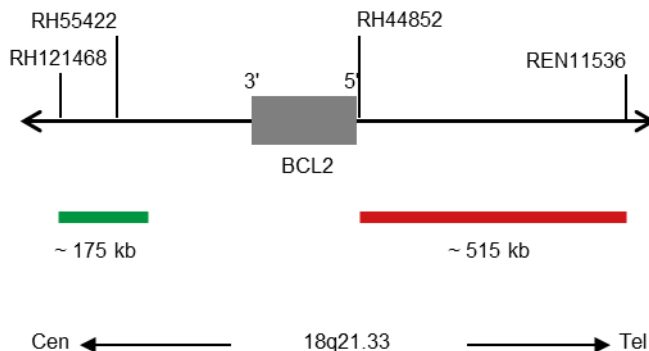

Fig. 1: SPEC BCL2 probe map (not to scale)
- Digoxigenin-labeled polynucleotides (~0.50 ng/ μ l), which target sequences mapping in 18q21.33* (chr18:60,415,418-60,589,273) proximal to the BCL2 breakpoint region (see Fig. 1).
- Dinitrophenyl-labeled polynucleotides (~0.75 ng/ μ l), which target sequences mapping in 18q21.33* (chr18:60,994,528-61,507,691) distal to the BCL2 breakpoint region (see Fig. 1).